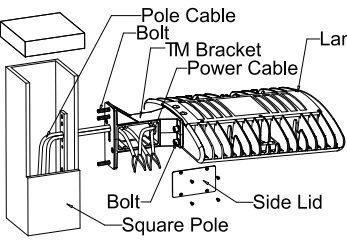

Figure 12-1
1. Open the side lid on DM bracket. Let the power cable go through the DM bracket. Fix the DM bracket to the end of lamp body by bolt. Let the pole cable go through the DM bracket. (Figure 12-1) Open the side lid on DM bracket. Let the power cable go through the DM bracket. Fix the DM bracket to the end of lamp body by bolt. Let the pole cable go through the DM bracket. (Figure 12-1)